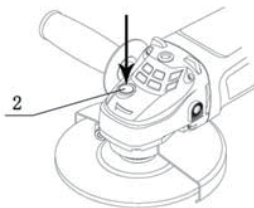

Fig. 5
B. Place the grinding (10) or cutting disc (11) on the top of the inner flange ensuring the bore fits into the step of the flange;
C. Mount the concave recess side of the outer flange (12) over the spindle;
D. Press the spindle locking button (2) firm and ensure there is no movement in the spindle. Then while the spindle lock is depressed tighten the outer flange in a clockwise direction using the spanner (13). (See fig.5)